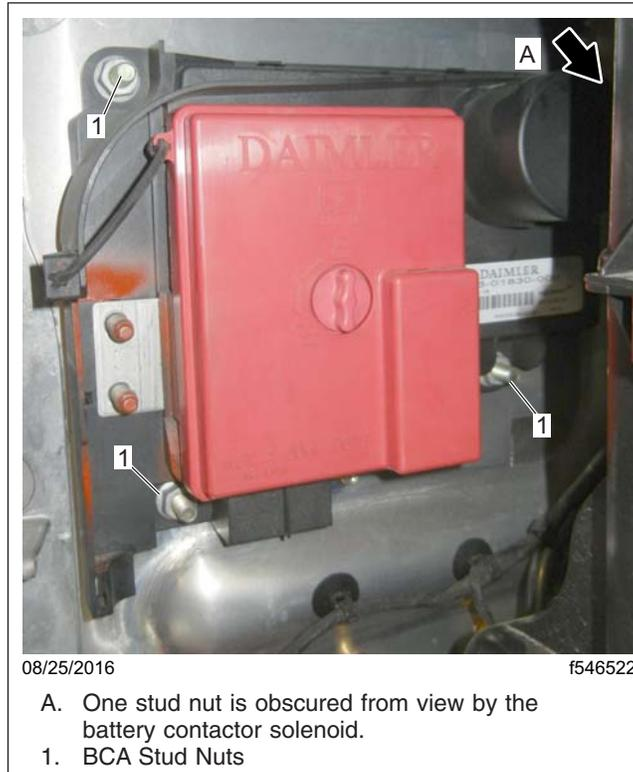

Fig. 40, BCA Mounting Stud Nuts
6. Remove the four stud nuts and washers attaching the BCA assembly to the engine-side frontwall. See **Fig. 40**.